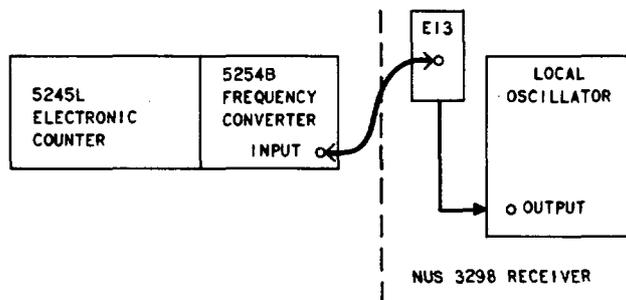

Fig. 3—Local Oscillator Frequency Measurement—Test Setup Diagram
- 2 Make the test connection shown in Fig. 3. Connect to the E13 coupler located at the *upper* local oscillator OUTPUT jack.